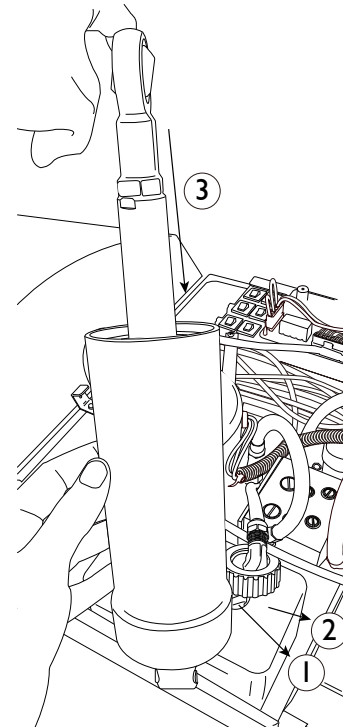

Figure 12. Draining any remaining fluid
9 Orient the hydraulic fitting (see Figure 12, item 1) so that it's pointing into the hydraulic reservoir (item 2) and compress the hydraulic piston of the failed lower cylinder (item 3) to drain any remaining hydraulic fluid.